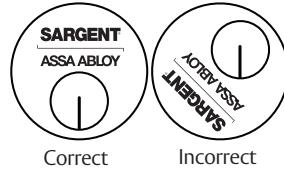

Figure 10
- SARGENT logo must be horizontal and on top. (Figure 10)